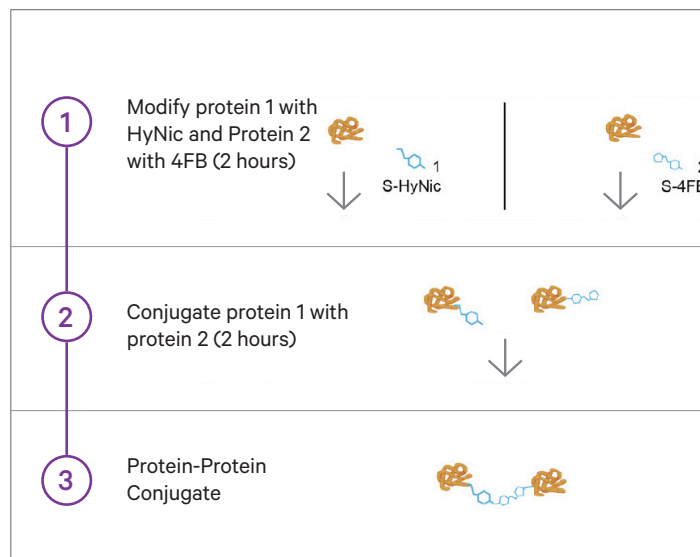

Figure 10 Protein-Protein Conjugation Kit workflow.
This kit is designed to conjugate two (2) reactions, each using 50–650 µg of each protein 20kDa or greater with any other protein of equal or greater size. Any suitably pure monoclonal or polyclonal antibody can be conjugated as well as any other amine containing proteins. The kit utilizes the HyNic/4FB coupling to produce these high quality protein conjugates with high yield (Figure 10). Common examples of protein-protein conjugates produced using this kit include HRP-antibody and PE-antibody. This kit is flexible so that researchers with little or no conjugation experience can make their own custom protein-protein conjugates to suit their needs.